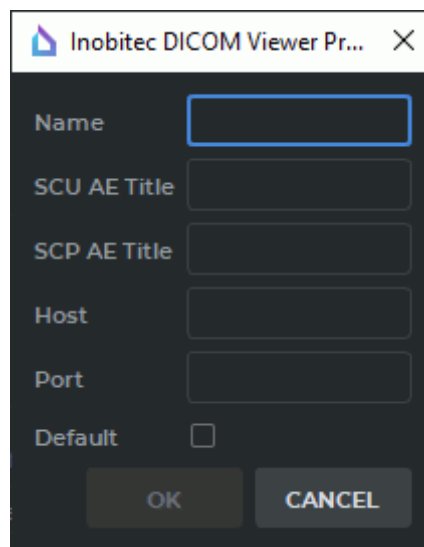

Figure 18.5: DICOM printer setup dialog box
1. Click the **Add printer**  button on the toolbar. The printer setup dialog box (Fig. 18.5) will be displayed.